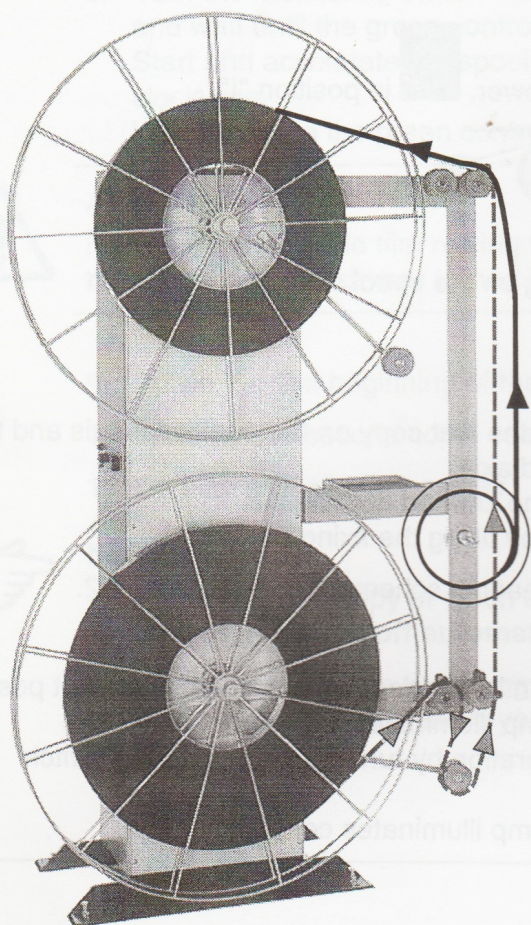

Figure 4-1
6. Thread film, as you can see in threading scheme, figure 4-1 and 4-2.
4. Thread film, as you can see in threading scheme, figure 4-1 and 4-2.